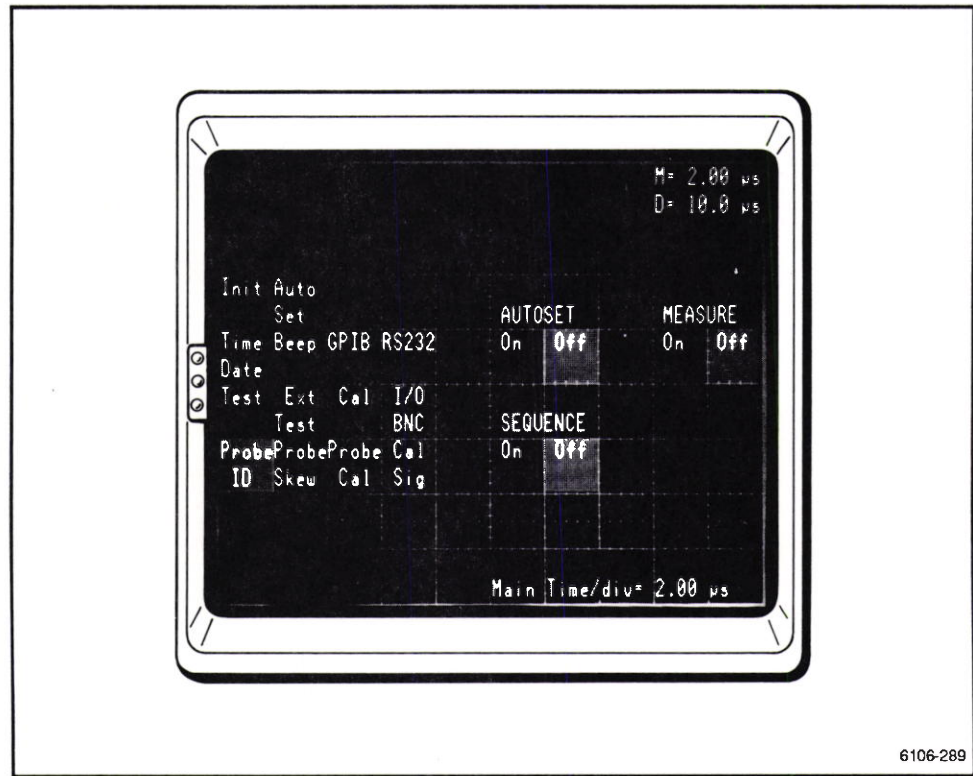

Figure 2-90. Probe ID selection.
The identify (ID) button on the probe body can be assigned to initiate several operations. These operations can be programmed through the **Probe ID** menu as shown in Fig. 2-90. The probe ID button can initiate Autoset, measurements, and the sequential recall of stored instrument settings.